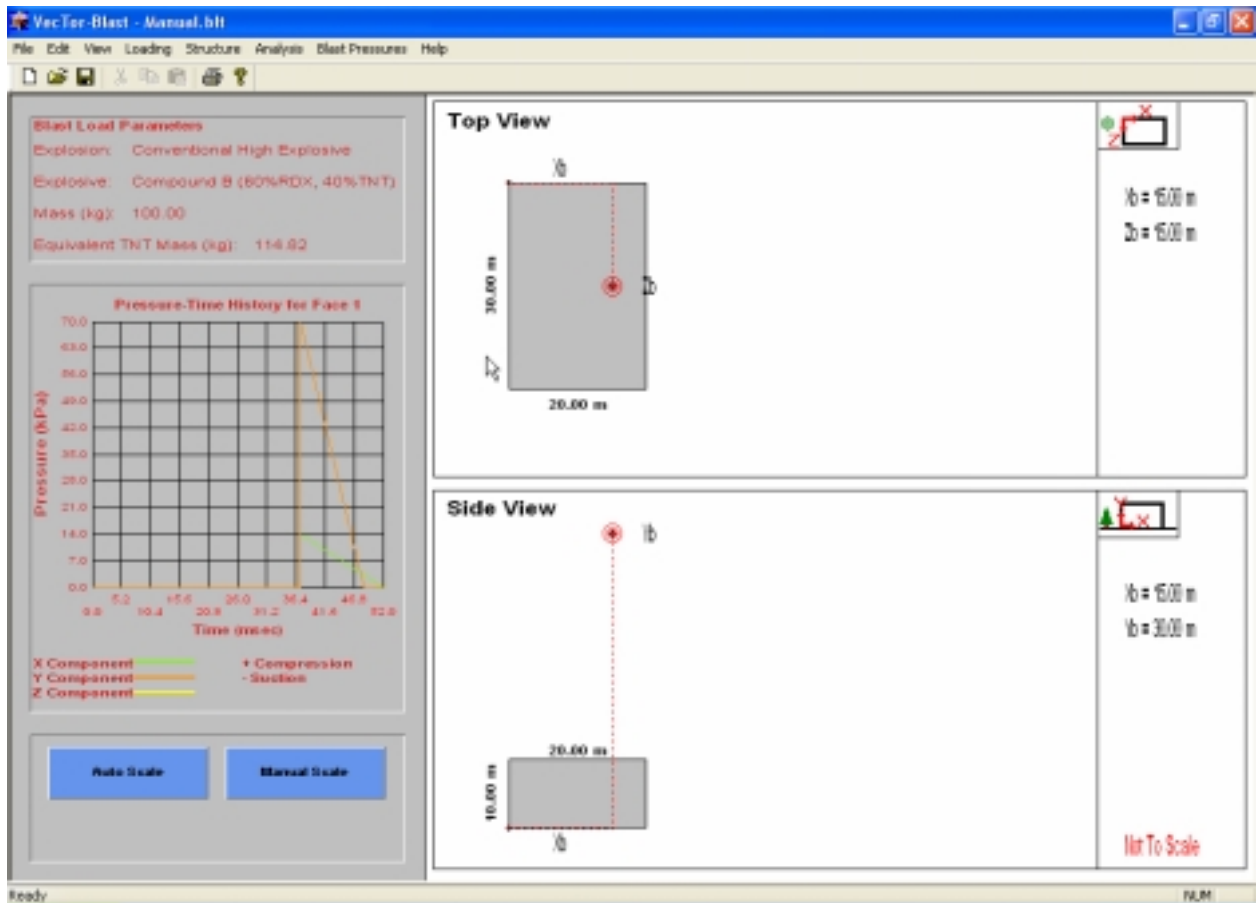

Figure 18 Example view with modified graph.
12. Click **OK**. The new graph is displayed as shown in Figure 18.